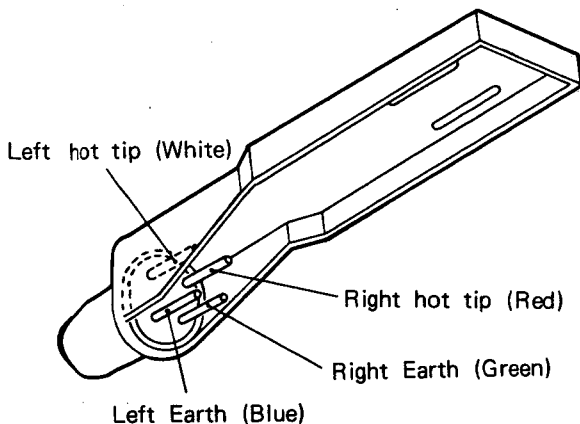

Figure 3-3
1. Referring to Figure 3-3, connect the cartridge to the head-shell by use of leads.